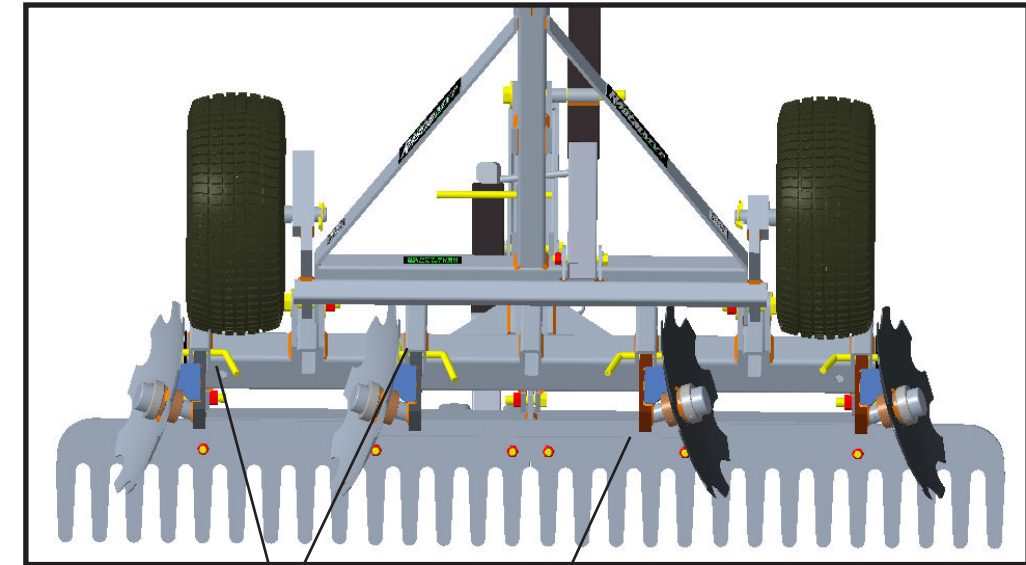

Fig 12
- Disc shanks must be slid into every other pocket with the shanks toward the inside and the discs facing outward of the unit so the discs will push the soil outward (**Fig 12**).